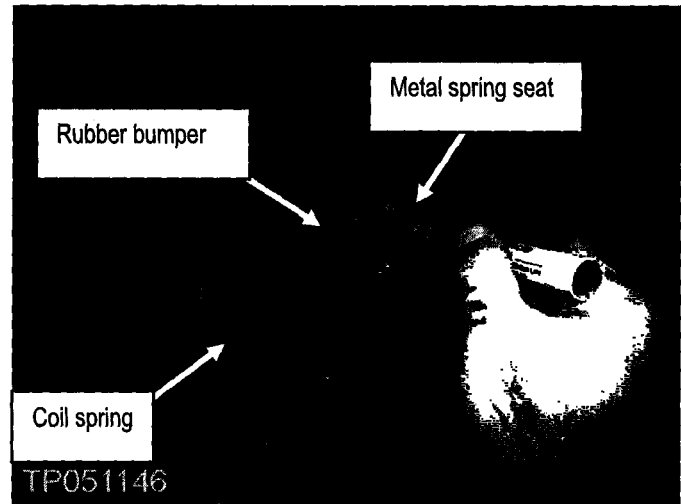

Figure 22
- a. Place an index mark across the coil spring, rubber bumper, and metal spring seat for proper re-assembly (see Figure 22).